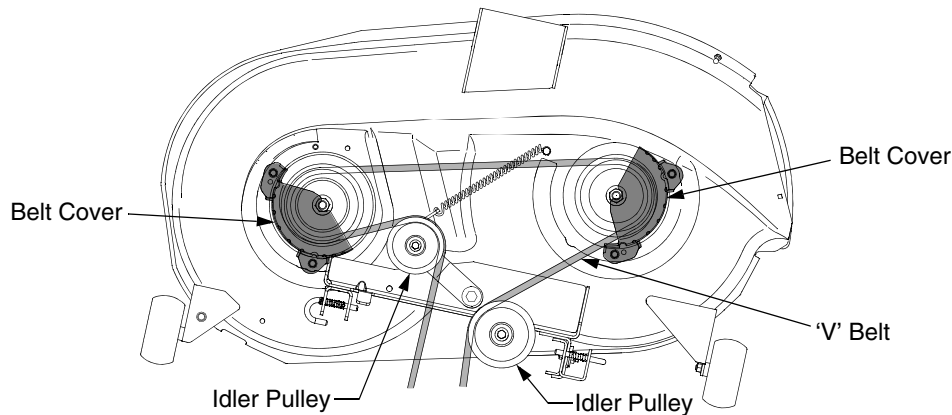

Figure 38
- Remove the hex tapping screws securing the belt covers to the deck and remove the belt from the spindle pulleys. Refer to Figure 38.